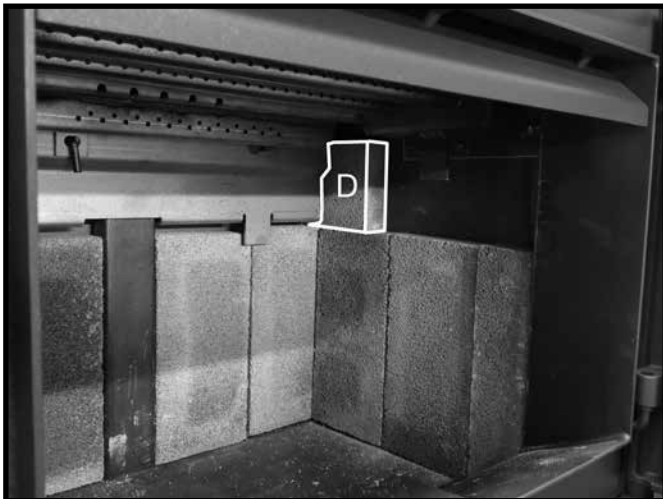

Figure 18: Small side wall firebrick in position.
3. Place a "D" firebrick on top of the previously placed "A" firebricks and slide this firebrick back toward the rear wall making sure that this firebrick tucks in behind the brick rail (Figure 18).